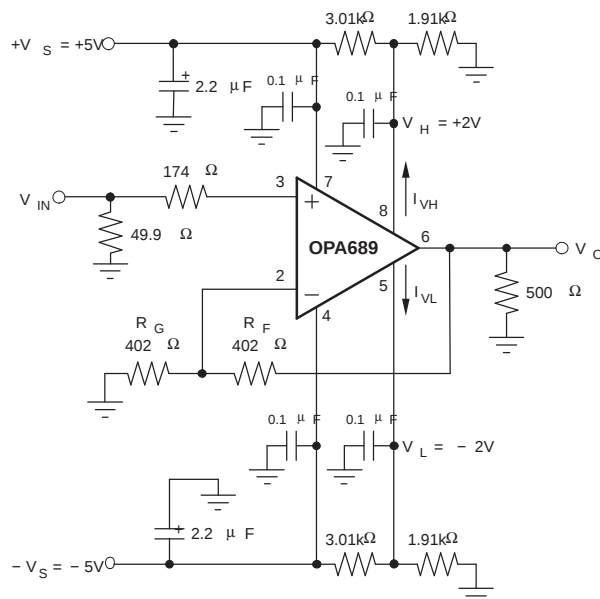
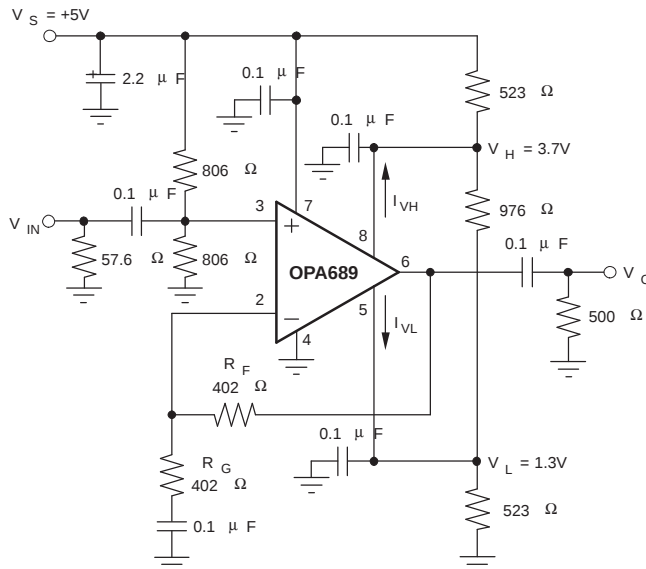

Figure 30. DC-Coupled, Dual Supply Amplifier
Figure 31. AC-Coupled, Single Supply Amplifier
(3) I_{VH} (V_H bias current) is positive and I_{VL} (V_L bias current) is negative under these conditions (see Note 3, Figure 31, and Figure 37).
(4) Limiter feedthrough is the ratio of the output magnitude to the sinewave added to V_H (or V_L) when $V_{IN} = 0$.
(5) Current is considered positive out of node.
(6) V_H slew rate conditions are $V_{IN} = 0.7\text{ V}$, $G = 6$, $V_L = -2\text{ V}$, $V_H = \text{step between } 2\text{ V and } 0\text{ V}$. V_L slew rate conditions are similar.
Figure 30 shows a non-inverting gain amplifier for dual-supply operation. This circuit was used for AC characterization of the OPA689, with a 50-Ω source, which it matches, and a 500-Ω load. The power-supply bypass capacitors are shown explicitly in Figure 30 and Figure 31, but will be assumed in the other figures. The limiter voltages (V_H and V_L) and their bias currents (I_{VH} and I_{VL}) have the polarities shown.
Figure 31 shows an AC-coupled, non-inverting gain amplifier for single 5-V supply operation. This circuit was used for AC characterization of the OPA689, with a 50-Ω source, which it matches, and a 500-Ω load. The power-supply bypass capacitors are shown explicitly in Figure 30 and Figure 31, but will be assumed in the other figures. The limiter voltages (V_H and V_L) and their bias currents (I_{VH} and I_{VL}) have the polarities shown. Notice that the single-supply circuit can use three resistors to set V_H and V_L , where the dual-supply circuit usually uses four to reference the limit voltages to ground.
voltages can break down internal junctions, possibly leading to catastrophic failure. Single-supply operation is possible as long as common mode voltage constraints are observed. The common mode input and output voltage specifications can be interpreted as a required headroom to the supply voltage. Observing this input and output headroom requirement will allow design of non-standard or single-supply operation circuits. Figure 31 shows one approach to single-supply operation.
When the limiter voltages are more than 2.1 V from the supplies ($V_L \geq -V_S + 2.1$ V or $V_H \leq V_S - 2.1$ V), you can use simple resistor dividers to set V_H and V_L (see Figure 30). Make sure you include the Limiter Input Bias Currents (Figure 37) in the calculations (i.e., $I_{VL} \geq 50$ µA out of pin 5, and $I_{VH} \leq 50$ µA out of pin 8). For good limiter voltage accuracy, run at least 1-mA quiescent bias current through these resistors.
When the limiter voltages need to be within 2.1 V of the supplies ($V_L \leq -V_S + 2.1$ V or $V_H \geq V_S - 2.1$ V), consider using low impedance buffers to set V_H and V_L to minimize errors due to bias current uncertainty. This will typically be the case for single supply operation ($V_S = 5$ V). Figure 31 runs 2.5 mA through the resistive divider that sets V_H and V_L . This keeps errors due to I_{VH} and I_{VL} $< \pm 1\%$ of the target limit voltages.